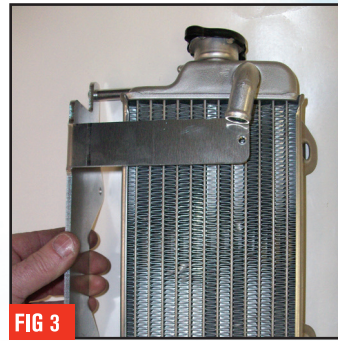

FIG 3
**7** Slip the big brace half marked "R" over the right radiator so that the "R" marking is facing the top back part of the radiator. The support rods should be in front of the radiator. **(Figure 3)**. Slip the big brace half marked "L" over the left radiator in the same manner.